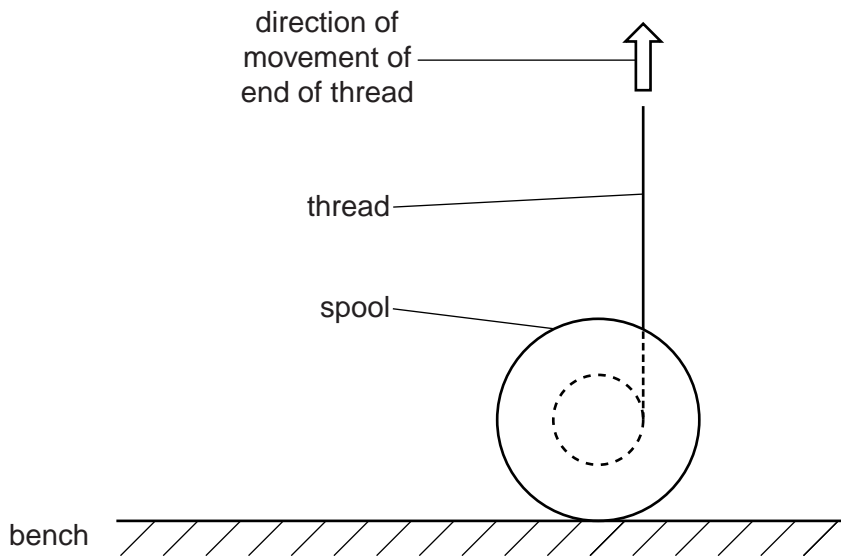

Fig. 2.3
- (ii) With the spool on the bench, gently pull the thread vertically as shown in Fig. 2.3.